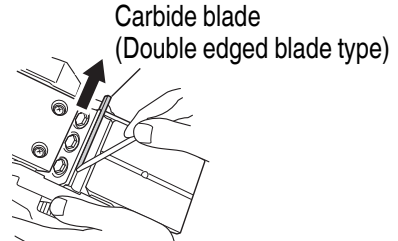

Fig. 11
- (2) As shown in Fig. 11, remove the carbide blade by sliding it with the attached box wrench.